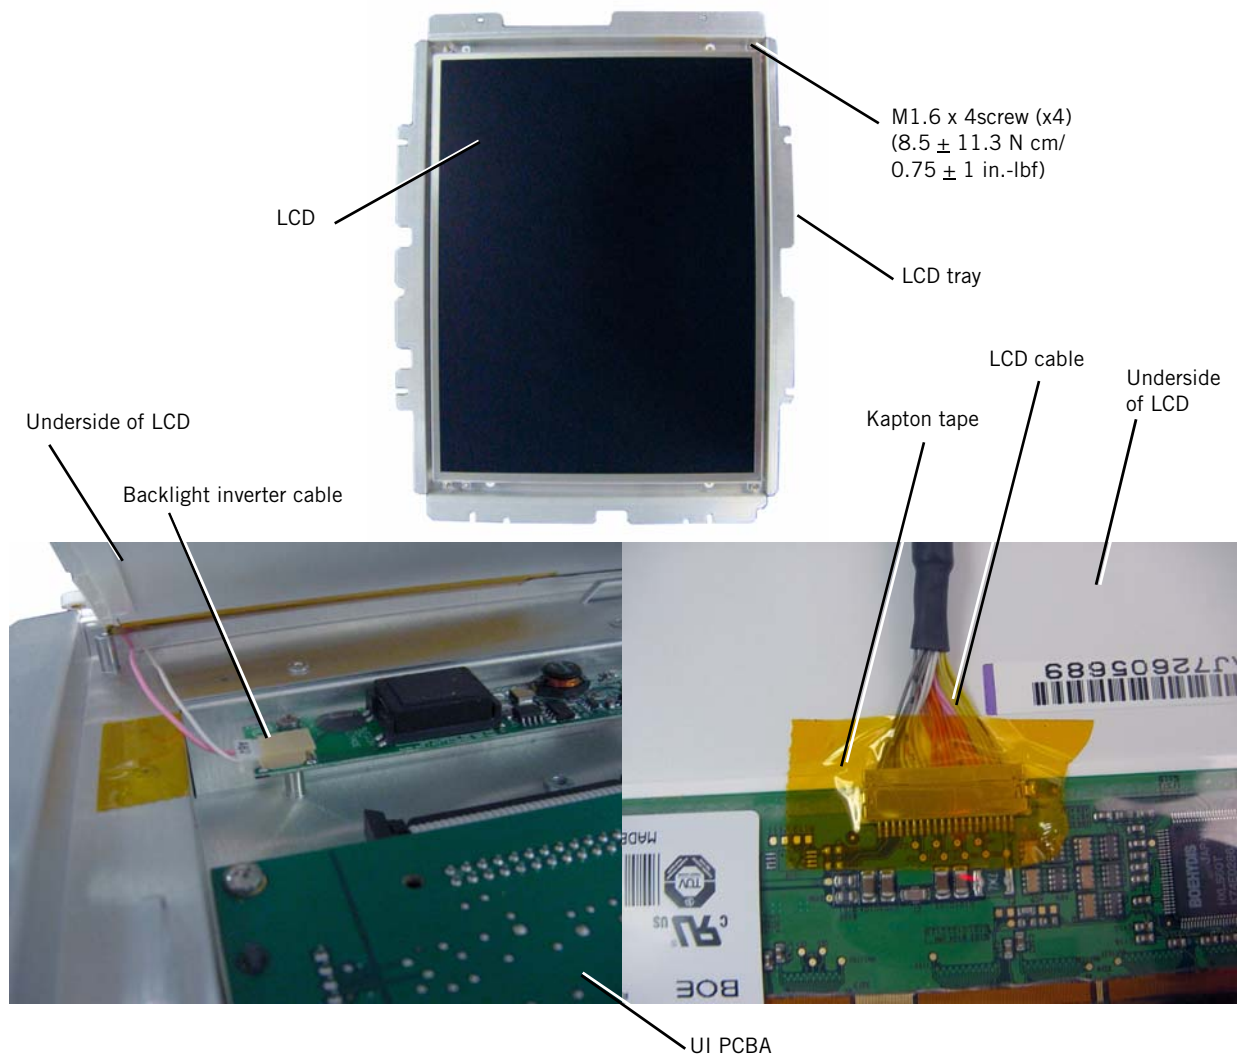

Figure 7-34: Removing the LCD
7.33 LCD Follow these steps to remove the LCD (Figure 7-34). Reverse to install.